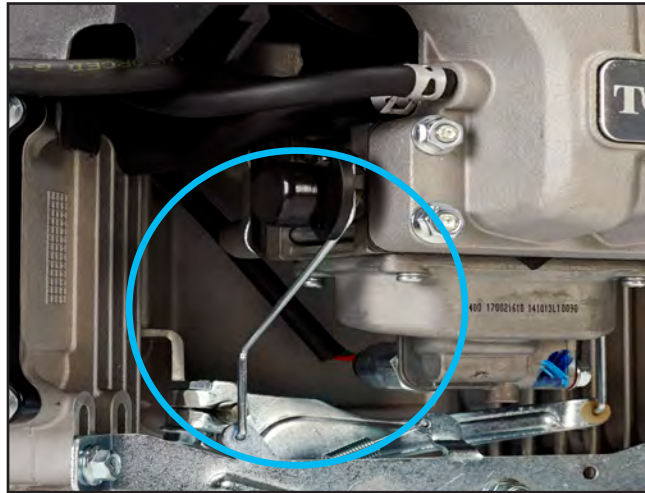

Figure 6
**Choke Linkage:** Connects the choke override lever to the choke pivot on the control plate. It is located on the number one cylinder side of the carburetor. The upper end of the link has a quick clip for easy carburetor removal. The choke linkage is longer than the throttle linkage, and has multiple bends (Figure 6).